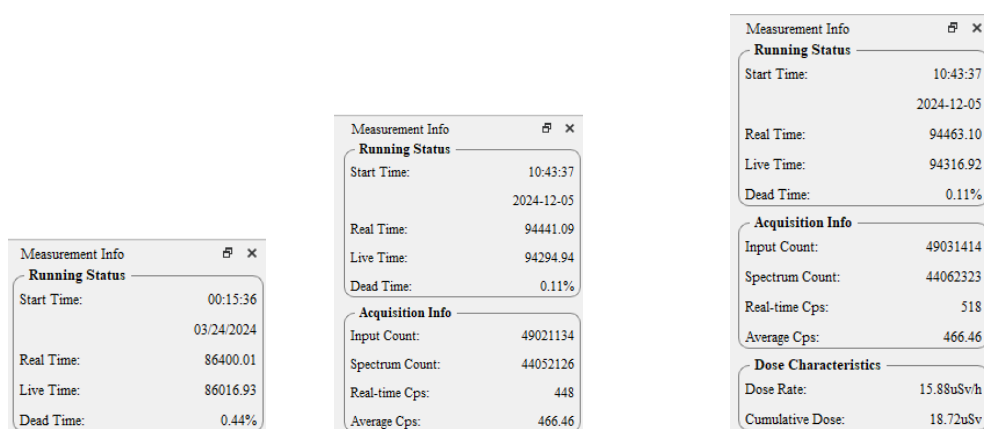

Fig.108: Measurement Information
The Measurement Information is located on the right side of the software interface by default and is a draggable window that can be displayed in front of the spectrum window as shown in Fig.108. The Measurement Information for opening spectrum files differs from that during the device acquiring spectrum, with the latter including additional acquisition information such as input count, spectrum count, real-time count rate of spectrum, and average count rate of spectrum. If dose measurement is enabled during the device acquiring spectrum (see ③ for details on dose measurement), it will also display dose characteristics, including dose rate and cumulative dose.